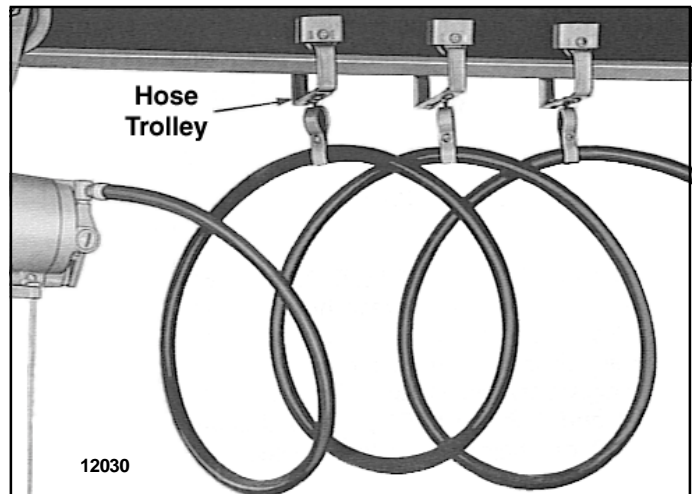

Figure 2-2. Air Hoist Supported by **BUDGIT** Hoist Trolleys.
b. If hoist is suspended by trolley, provide sufficient hose to reach from air source to farthest point of trolley travel. **BUDGIT** Hose Trolleys are recommended to keep hose up out of the way (see Figure 2-2).